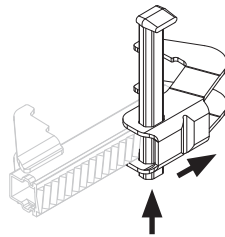

Fig. A4.01b
2. Open sliding part. (Fig. A4.01b)